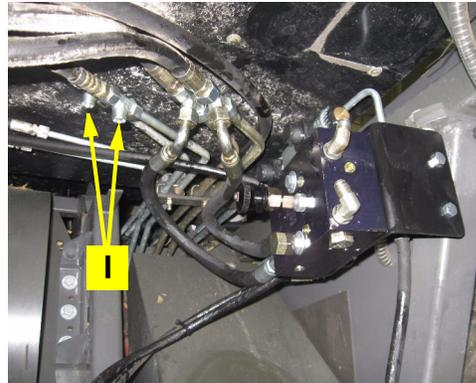

Figure 5b: Installed steering fittings
- b. Disconnect the rubber steering hoses from the steel steering lines. Install run-tee fittings **I** between the steel and rubber hoses (Figure 5b).